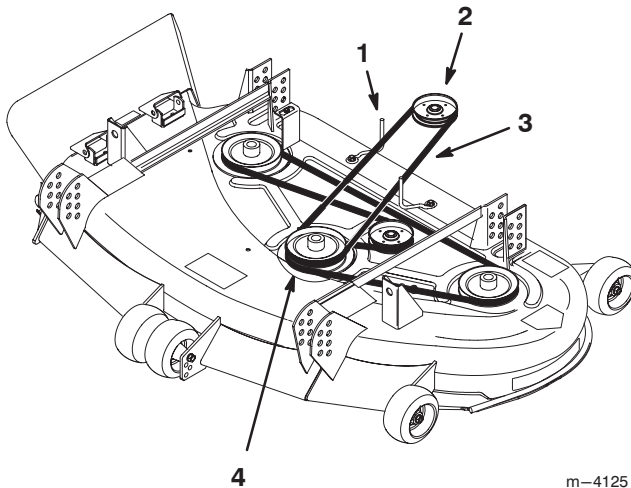

Figure 49
- Remove the worn drive belt (Fig. 49).
- Install the new drive belt onto the traction unit drive pulley and the top groove of the center spindle pulley (Fig. 49).